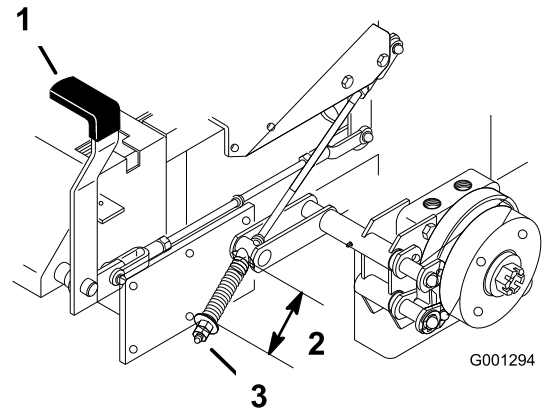

Figure 66
2. Measure the length of the spring. Measurement should be 2-1/2 inch (64 mm) between the washers (Figure 66).
3. If adjustment is necessary, release the parking brake, loosen the jam nut below the spring and adjust the nut directly below the spring (Figure 66). Turn the nut until the correct measurement is obtained. Turn the nut clockwise to shorten spring length and turn counter-clockwise to lengthen the spring.